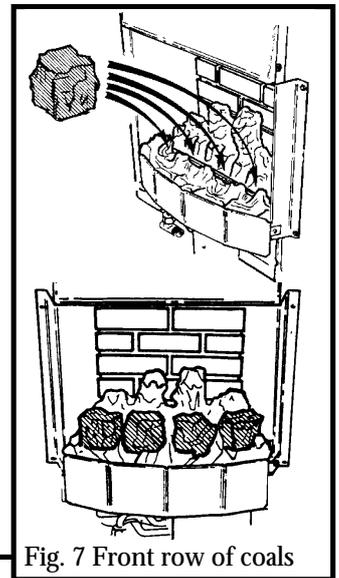

Fig. 7 Front row of coals
**4.1** Select the two smallest coals and put them aside until all the other coals are installed. Place four of the medium size coals in the four valleys of the front coal. Place the left side coal so that the pilot flame will be visible. (See figure 7).